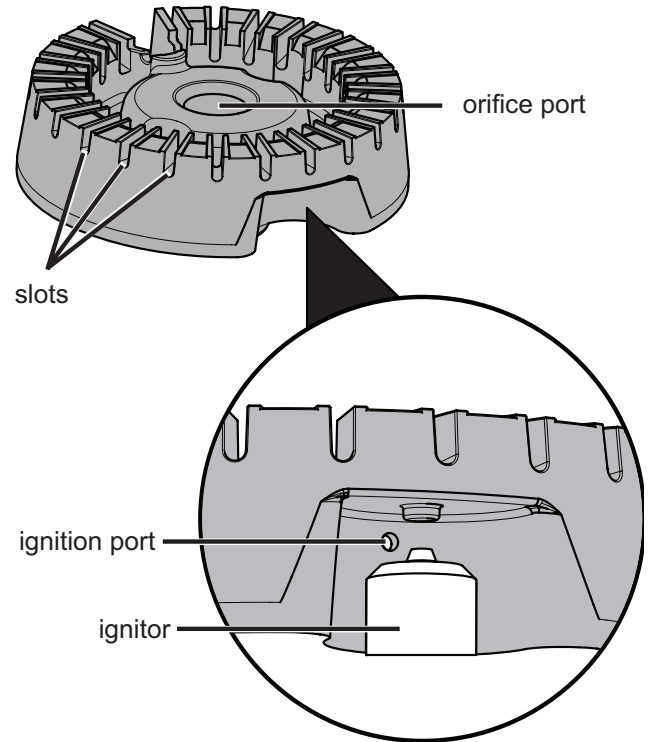

Figure 22: Cooktop cleaning
3. Use a toothbrush to clean all over the burner head (see Figure 22).